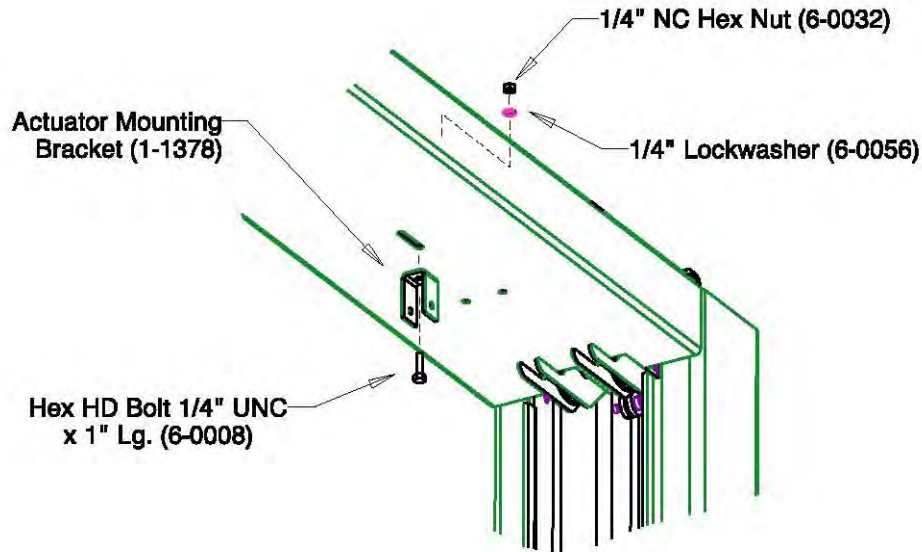

Figure 6: Actuator Mounting Bracket
1. Attach the Actuator Mounting Bracket to the crossmember using one (1) 1/4"-NC x 1" lg. hex head bolt, one (1) 1/4"ID lockwasher, and one (1) 1/4" NC hex nut. The mounting bracket should be installed in one of center slots at either end of the crossmember. (**Figure 6**)